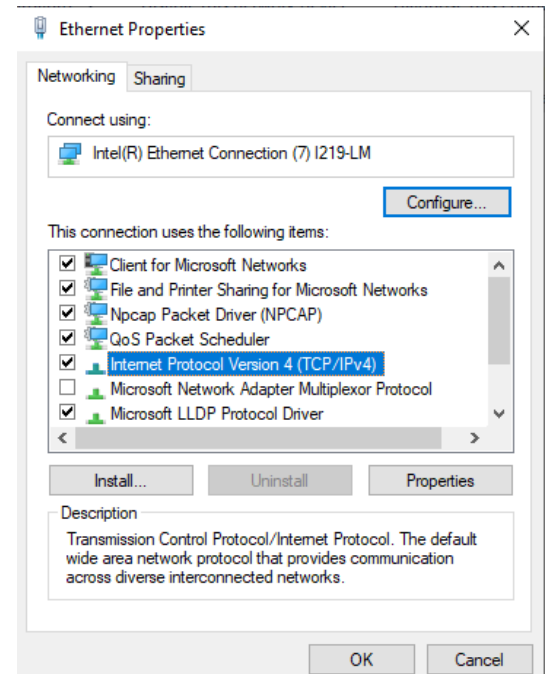

Fig. 4-2, Local Area Connection Properties Screen, Windows® 10
2. Right-click “Ethernet” (or whichever network device name represents your computer’s local Ethernet network adapter). From the context menu, select “Properties.” You will see a dialog box similar to **Fig. 4-2, Local Area Connection Properties Screen, Windows® 10**.